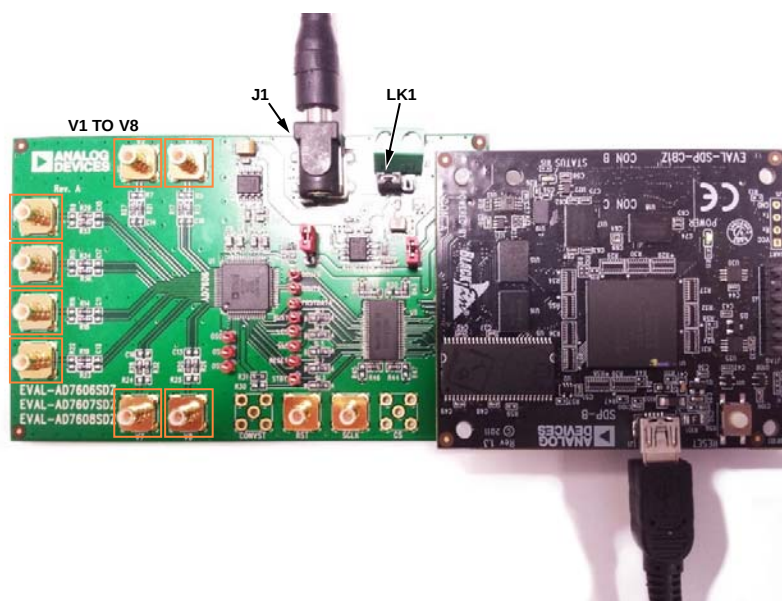

Figure 1. Evaluation Board (Left) Connected to the SDP Board (Right)
3. Connect the EVAL-SDP-CB1Z SDP board to the evaluation board as shown in Figure 1. Screw the EVAL-SDP-CB1Z SDP board and EVAL-AD7605-4SDZ/EVAL-AD7606SDZ/EVAL-AD7606-6SDZ/EVAL-AD7606-4SDZ/EVAL-AD7607SDZ/EVAL-AD7608SDZ evaluation board together using the enclosed nylon screw/nut kit to ensure the boards connect firmly together.
The EVAL-AD7606SDZ evaluation board is supplied with the AD7606 mounted at U1 (see Figure 1). The AD7606 is an 8-channel data acquisition system (DAS) with a simultaneous sampling ADC. On this evaluation board external signals can be applied to the V1 to V8 terminal blocks.
The EVAL-AD7607SDZ evaluation board is supplied with the AD7607 mounted at U1 (see Figure 1). The AD7607 is an 8-channel DAS with a simultaneous sampling ADC. On this evaluation board external signals can be applied to the V1 to V8 terminal blocks.
The EVAL-AD7608SDZ evaluation board is supplied with the AD7608 mounted at U1 (see Figure 1). The AD7608 is an 8-channel DAS with a simultaneous sampling ADC. On this evaluation board external signals can be applied to the V1 to V8 terminal blocks.
The EVAL-AD7606-6SDZ evaluation board is supplied with the AD7608 mounted at U1 (see Figure 1). The AD7606-6 is a 6-channel DAS with a simultaneous sampling ADC. External signals can be applied to V1, V2, V3, V5, V6, and V7. Input Connectors V5 to V7 route to the AD7606-6 V4 to V6 input channels, respectively.
The EVAL-AD7606-4SDZ evaluation board is supplied with the AD7606-4 mounted at U1 (see Figure 1). The AD7606-4 is a 4-channel DAS with simultaneous sampling ADC. External signals can be applied to V1, V2, V5, and V6. Input Connectors V5 and V6 route to the AD7606-4 V3 and V4 input channels, respectively.
The EVAL-AD7605-4SDZ evaluation board is supplied with the AD7605-4 mounted at U1 (see Figure 1). The AD7605-4 is a 4-channel DAS with a simultaneous sampling ADC. External signals can be applied to V1, V2, V5, and V6. Input Connectors V5 and V6 route to AD7605-4 V3 and V4 input channels, respectively.